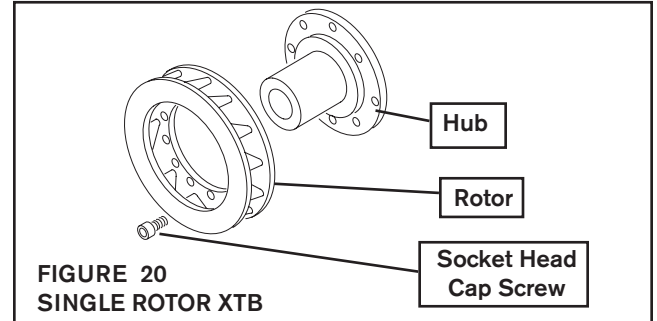
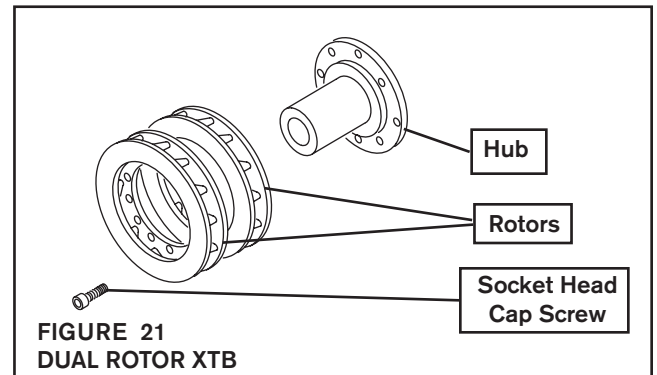

FIGURE 20
FIGURE 21
4. Remove the Socket Head Cap Screws securing the Rotor(s) to the Hub (See Figure 20 for Single Rotor and Figure 21 for Dual Rotor).
5. Apply Loctite® 242 to the Socket Head Cap Screws to avoid loosening. Using the Socket Head Cap Screws, secure the new or resurfaced Rotor(s) to the Hub (See Figure 20 for Single Rotor and Figure 21 for Dual Rotor).